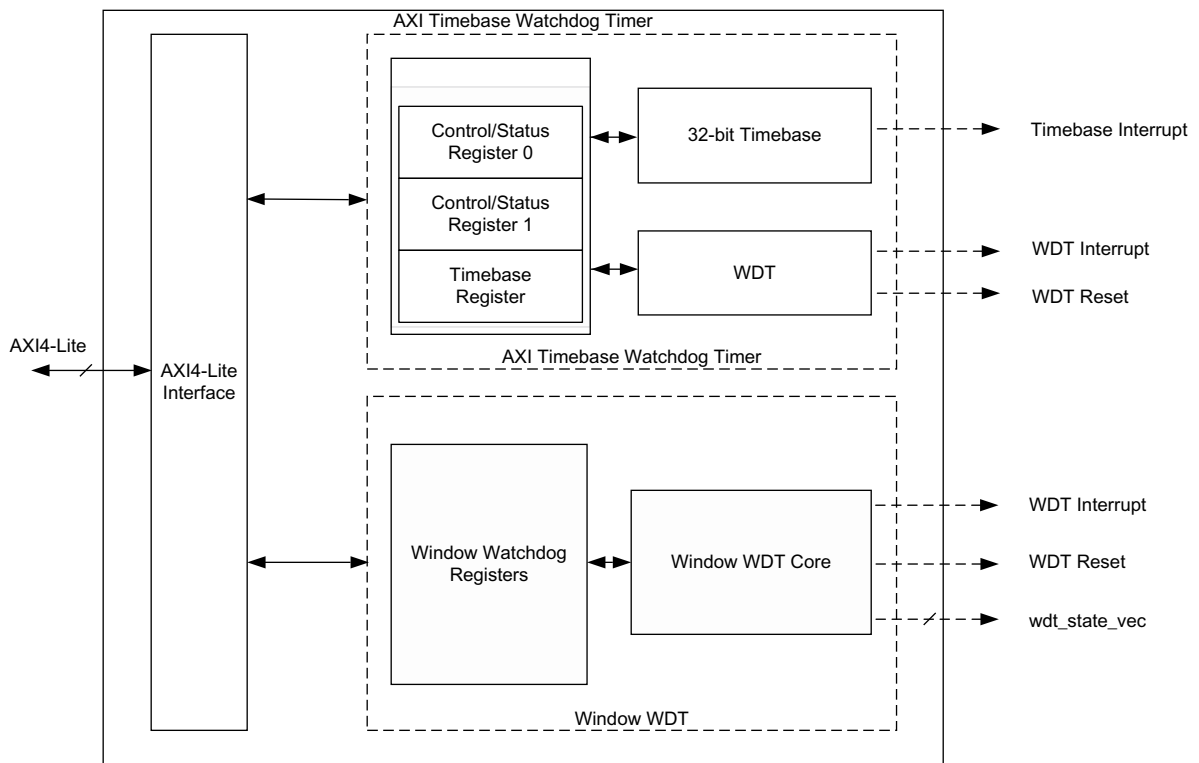

Figure 1-1: AXI Timebase Watchdog Timer Block Diagram
The top-level block diagram for the AXI Timebase Watchdog Timer (WDT) is shown in Figure 1-1.
- Timebase Watchdog Timer Registers** – Timebase Watchdog Timer register module includes all memory-mapped registers (as shown in Figure 1-1). It consists of a 32-bit Control/Status register 0, a 32-bit Control/Status register 1 and a 32-bit Timebase register (TBR).